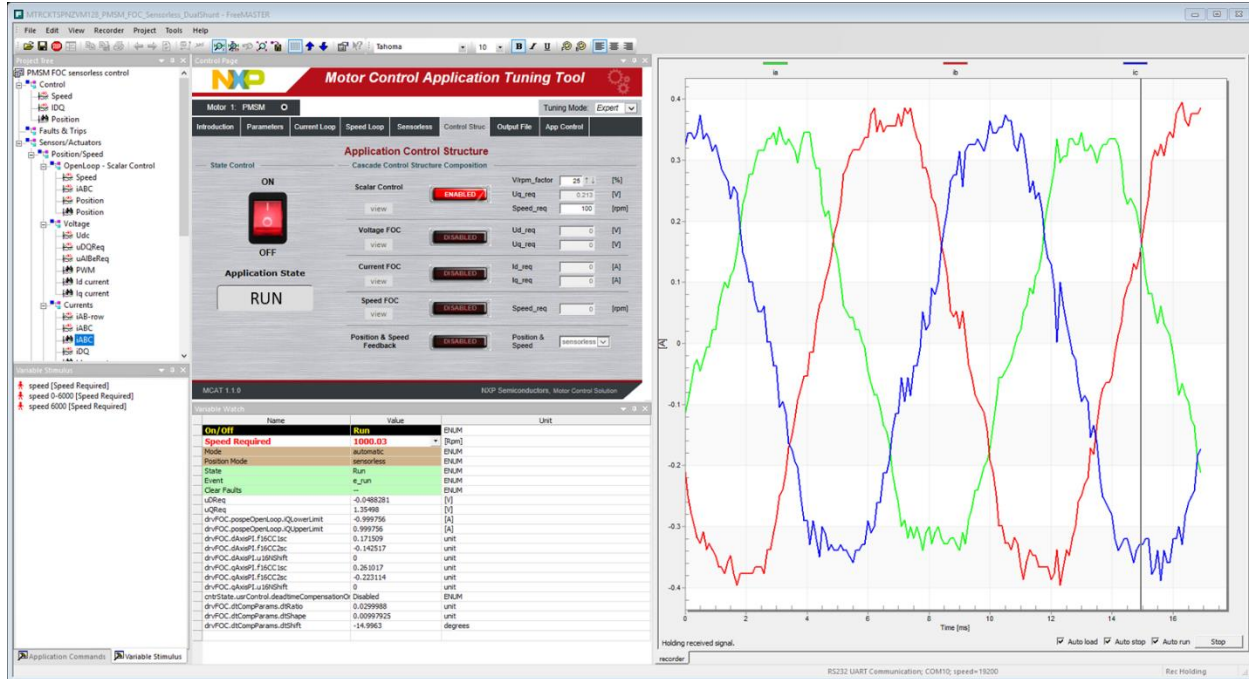

Figure 32. FreeMASTER iABC Current Waveforms in Recorder
- Turn on the switch and check the current waveforms using **FreeMASTER Recorder**. If no current is induced, then either increase the **V/rpm_factor** or **Speed_req** by small steps, see Figure 32